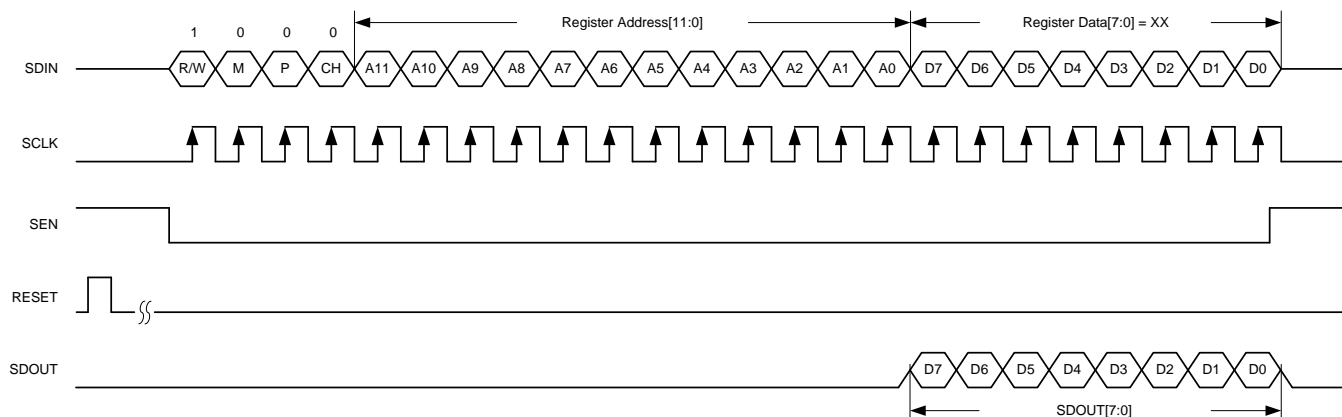

Figure 67. Serial Register Read Timing Diagram
4. Reading back the register content on the SDOUT pin, as shown in Figure 67. When a page is selected, multiple read backs from the same page can be done.